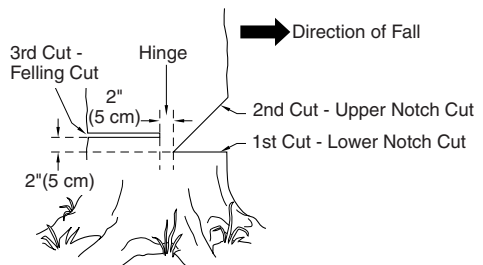

Figure 12 - Felling A Tree
A properly placed felling notch will determine direction tree will fall. Place felling notch on side of tree in direction you want tree to fall (see Figure 12). Follow directions below to create a felling notch.
1. Make lower notch cut as close to ground as possible. Hold saw so guide bar is horizontal. Cut 1/3 the diameter of tree trunk (see Figure 12). *Note:* Always make this horizontal lower notch cut first. If you make this cut second, tree can pinch chain or guide bar.
*Example:* If lower notch cut is eight inches deep, start upper notch cut eight inches above it. Cut downward at 45° angle. The upper notch cut should meet end of lower notch cut (see Figure 12).
1. Make felling cut two inches higher than lower notch cut and on opposite side of tree (see Figure 12). Keep felling cut parallel to lower notch cut.
**⚠ WARNING:** Do not cut all the way through tree. Leave about two inches of tree diameter uncut directly behind felling notch (see Figure 12). This uncut portion acts as a hinge. The hinge helps keep tree from twisting and falling in wrong direction.